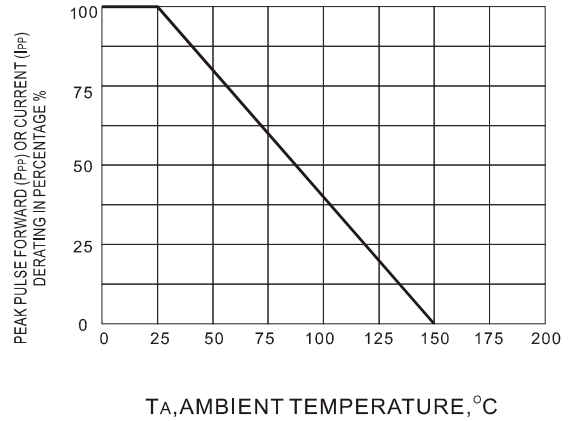
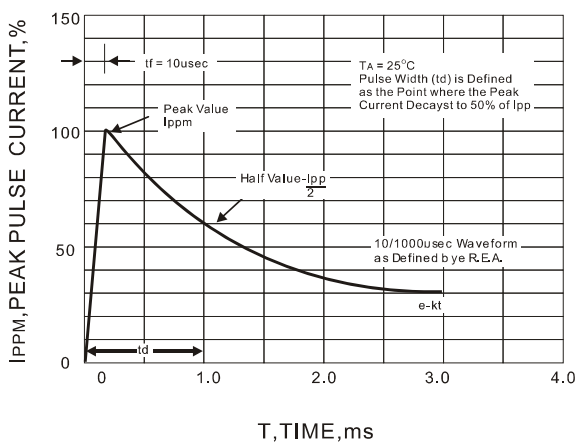

Fig.2 DERATING CURVE
Fig.3 PULSE WAVEFORM
1. Non-repetitive current pulse, per Fig.3 and derated above T_A = 25°C per Fig. 2.